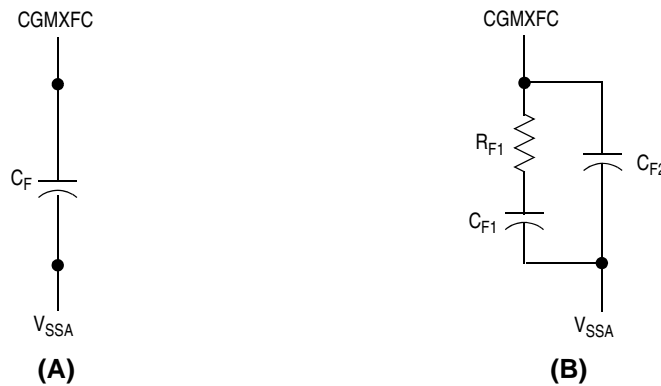

Figure 4-10. PLL Filter
Figure 4-10 shows two types of filter circuits. In low-cost applications, where stability and reaction time of the PLL are not critical, the three component filter network of **Figure 4-10 (B)** can be replaced by a single capacitor, C_F , shown in **Figure 4-10 (A)**. Refer to **Table 4-4** for recommended filter components at various reference frequencies. For reference frequencies between the values listed in the table, extrapolate to the nearest common capacitor value. In general, a slightly larger capacitor provides more stability at the expense of increased lock time.